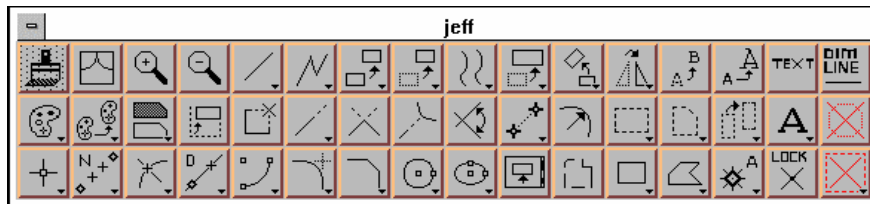

Figure 2.1.5A
- Custom Palettes - A palette menu can be created in Microstation using Workspace>Customize. See Figure 2.1.5A.